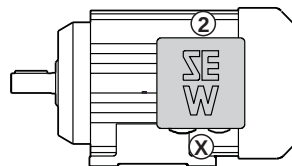

Fig. 3: Position of the cable entry
- Terminal box (→ Fig. 4, item 1) with cable run from directions "X" (= normal position) and "2" (→ Fig. 3)